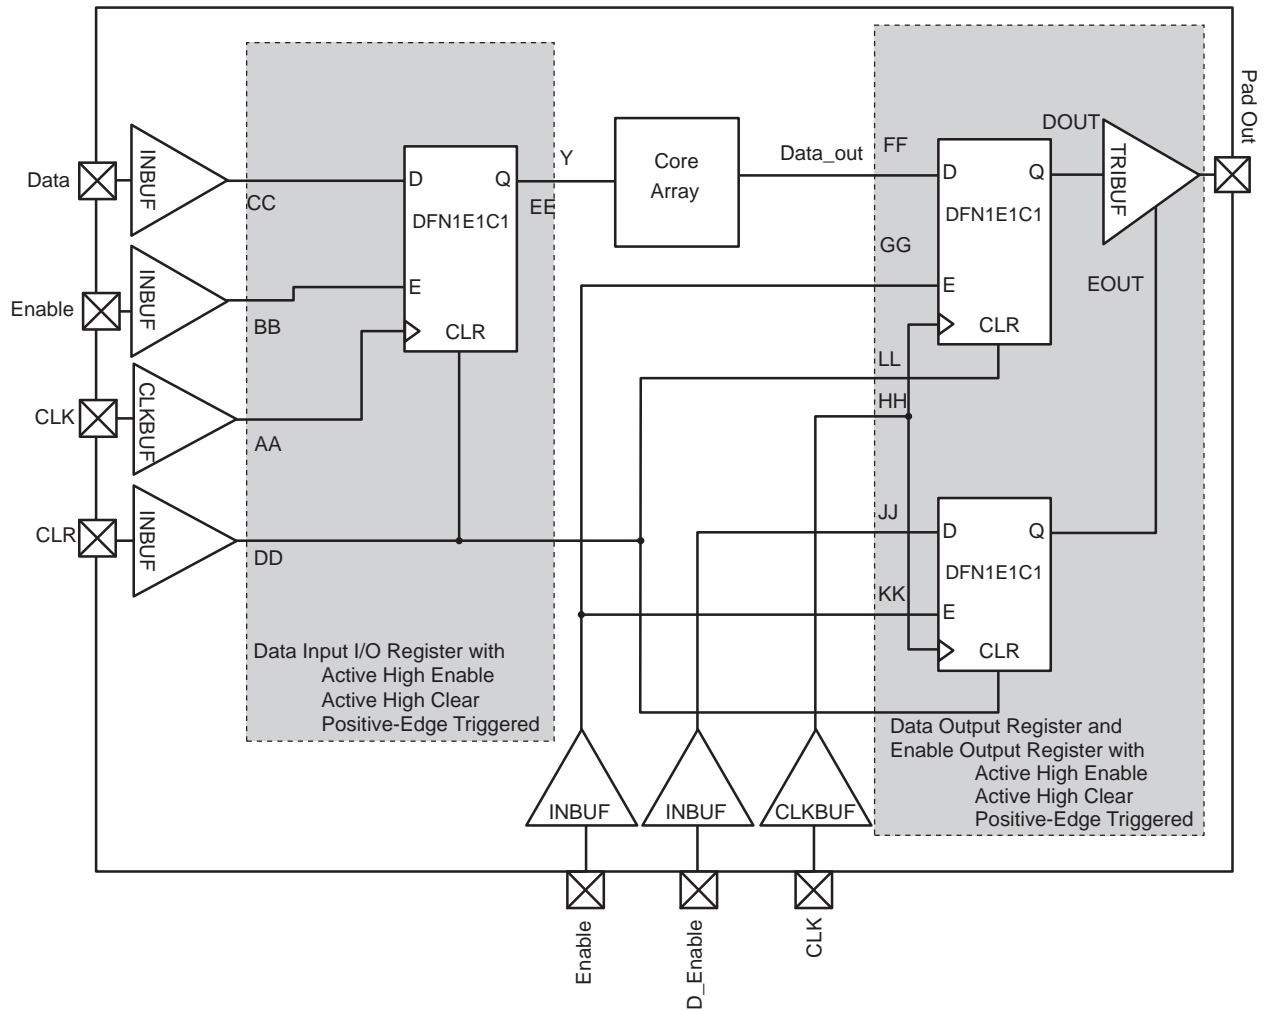

Figure 2-30 • Timing Model of the Registered I/O Buffers with Synchronous Enable and Asynchronous Clear
* See Figure 2-30 on page 2-95 for more information.